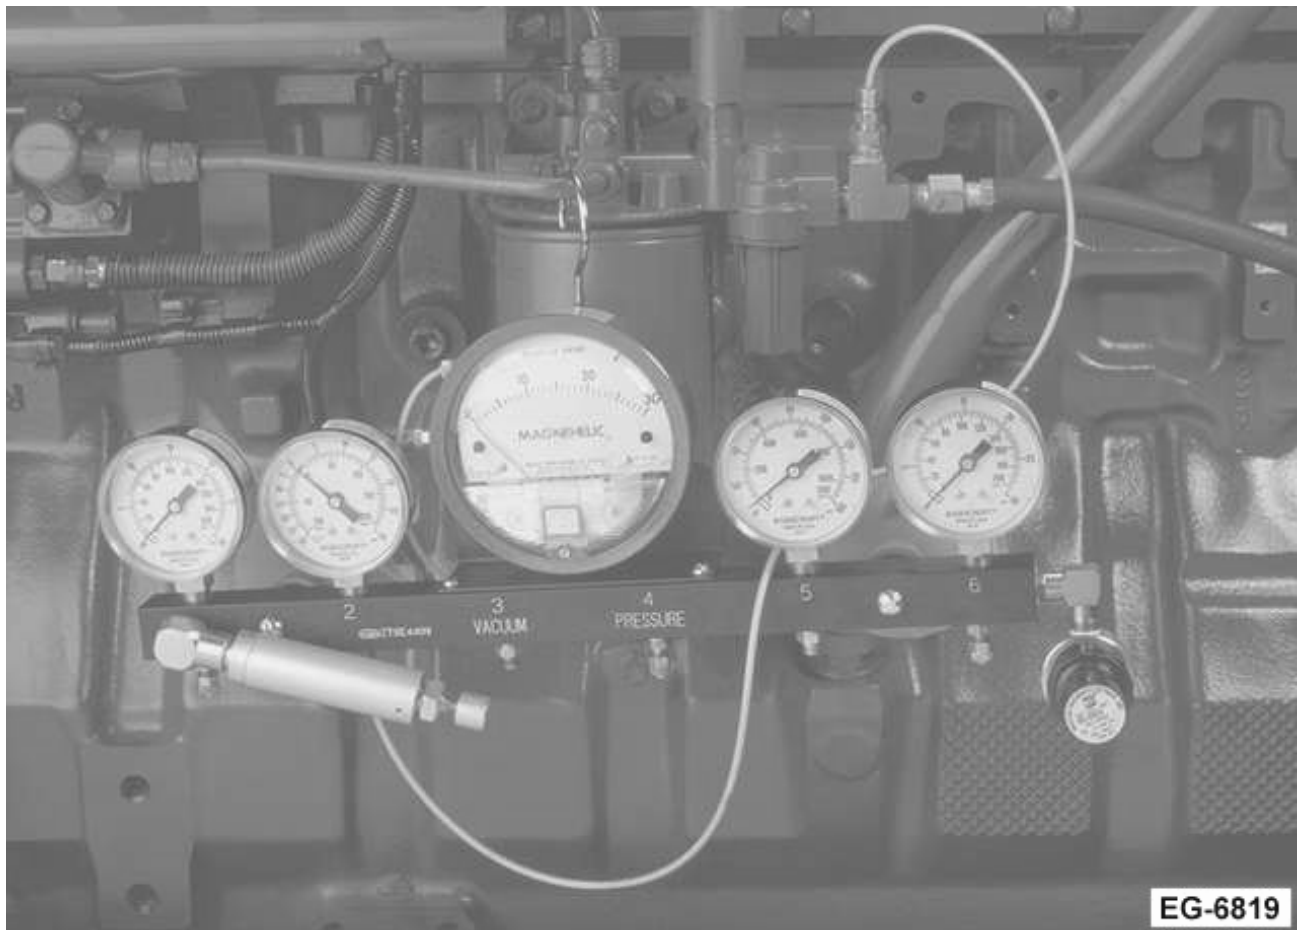

Figure 53 Measuring Transfer Pump Restriction with Gauge Bar
1. Connect a Tee between the fuel filter inlet and fuel supply line. Connect a line from the Tee to a 0-30 in Hg vacuum gauge on Gauge Bar. See measuring Transfer Pump Restriction with Gauge Bar (See Figure 53, page 97).